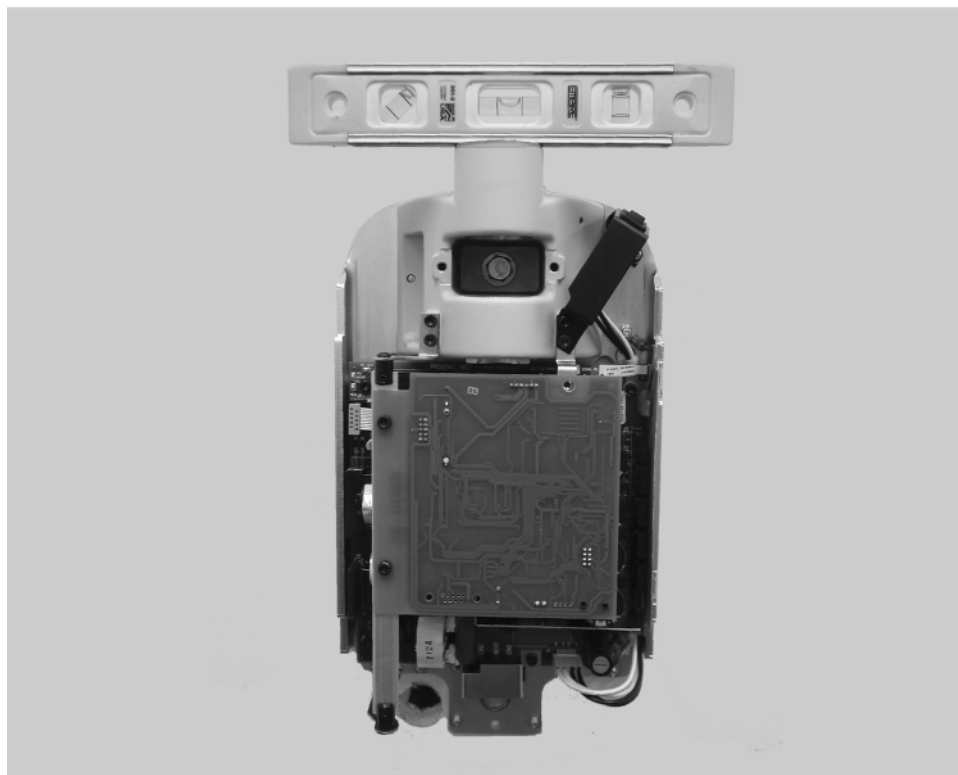

Figure 14
5. Place a level on the Control Unit bearing parallel to the wall, as shown in *Figure 14*. Level the Control Unit.